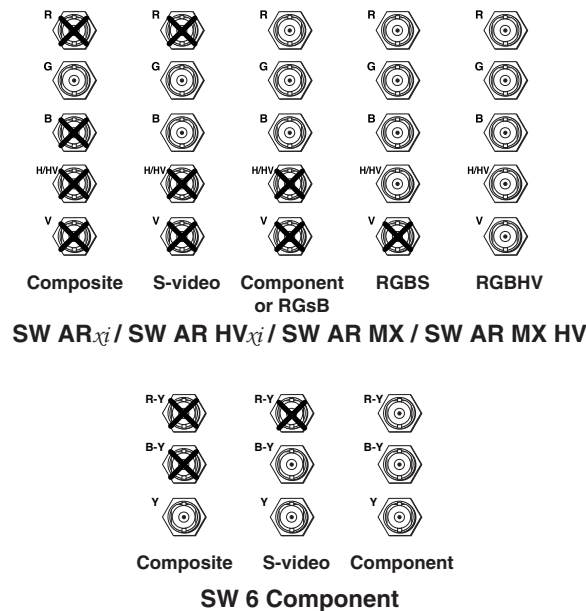
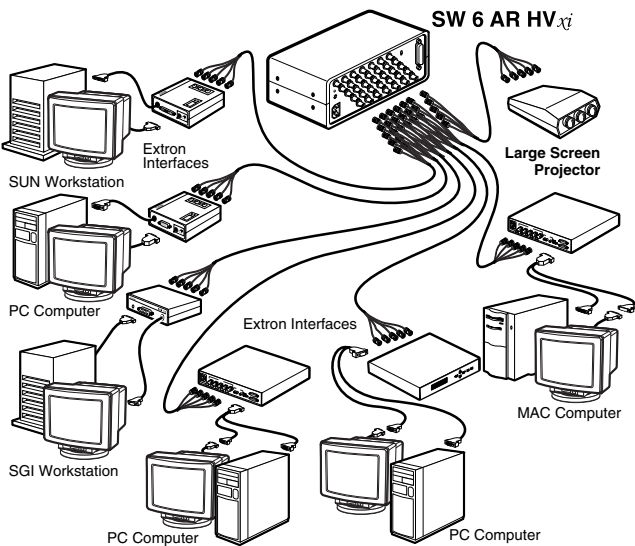

Figure 18 — Connecting the switcher
Figure 19 — SW 6 AR HV χ i cabling
- 1. Use BNC connectors to connect each input device to the input connectors (figure 18). MBC cables or MBC buffers may be required for computer/monitor/switcher connections, as shown in figures 19 and 20.